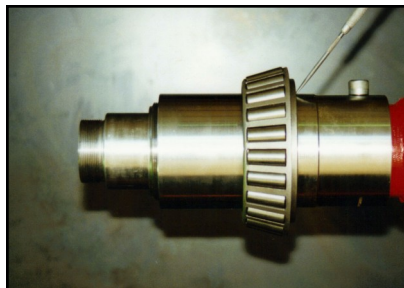

Fig 2.
Step 1. Lightly spray a light oil over the bearing rollers. Fit the inner bearing cone onto the axle, Fig 2, ensuring it seats square against the axle shoulder or seal wear ring.